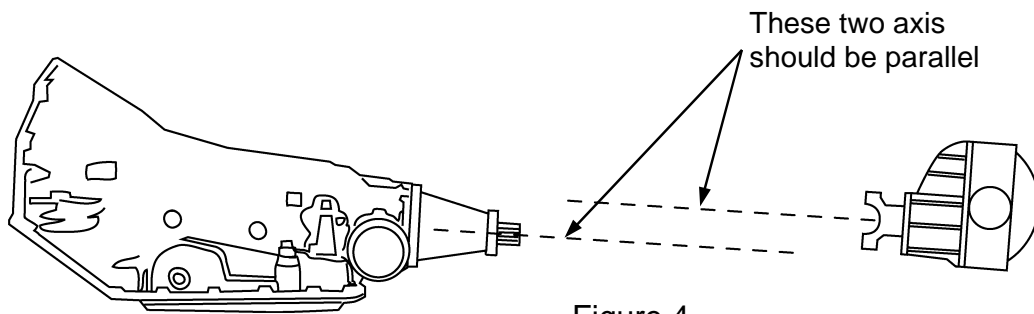

Figure 4
5. The pinion angle can be fine adjusted using the Lower Link Bars, see Figure 4. Install the optional upper coil-over shock mounts per their instructions, and install coil-overs onto the mounts and axle housing brackets using a coil-over hardware installation kit.